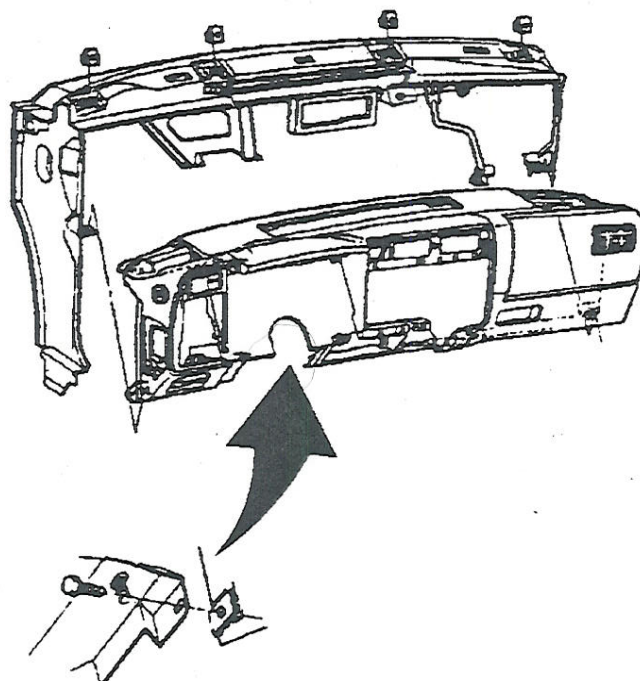

Fig. 25 Instrument panel lower support to brake pedal bracket bolt removal. 1997 S & T Series & Bravada
12. Remove instrument panel lower support to brake pedal bracket as illustrated in Fig. 25.